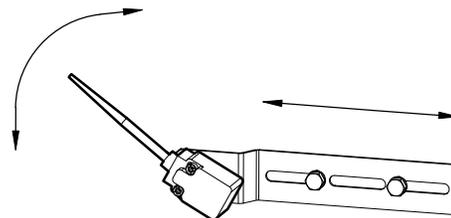

Figure 28: Mechanism Adjustment
7. **Adjust** the position of the Stowage Stop mechanism, by loosening one of the M5 bolts, to where the liftgate power shuts off before hitting the deck extension (Figure 28).
14. **Connect** the circuit breaker and battery as outlined in the Tommy Gate Recommended Electrical Wiring Guidelines and wiring diagram (Figure 28 or Figure 29).